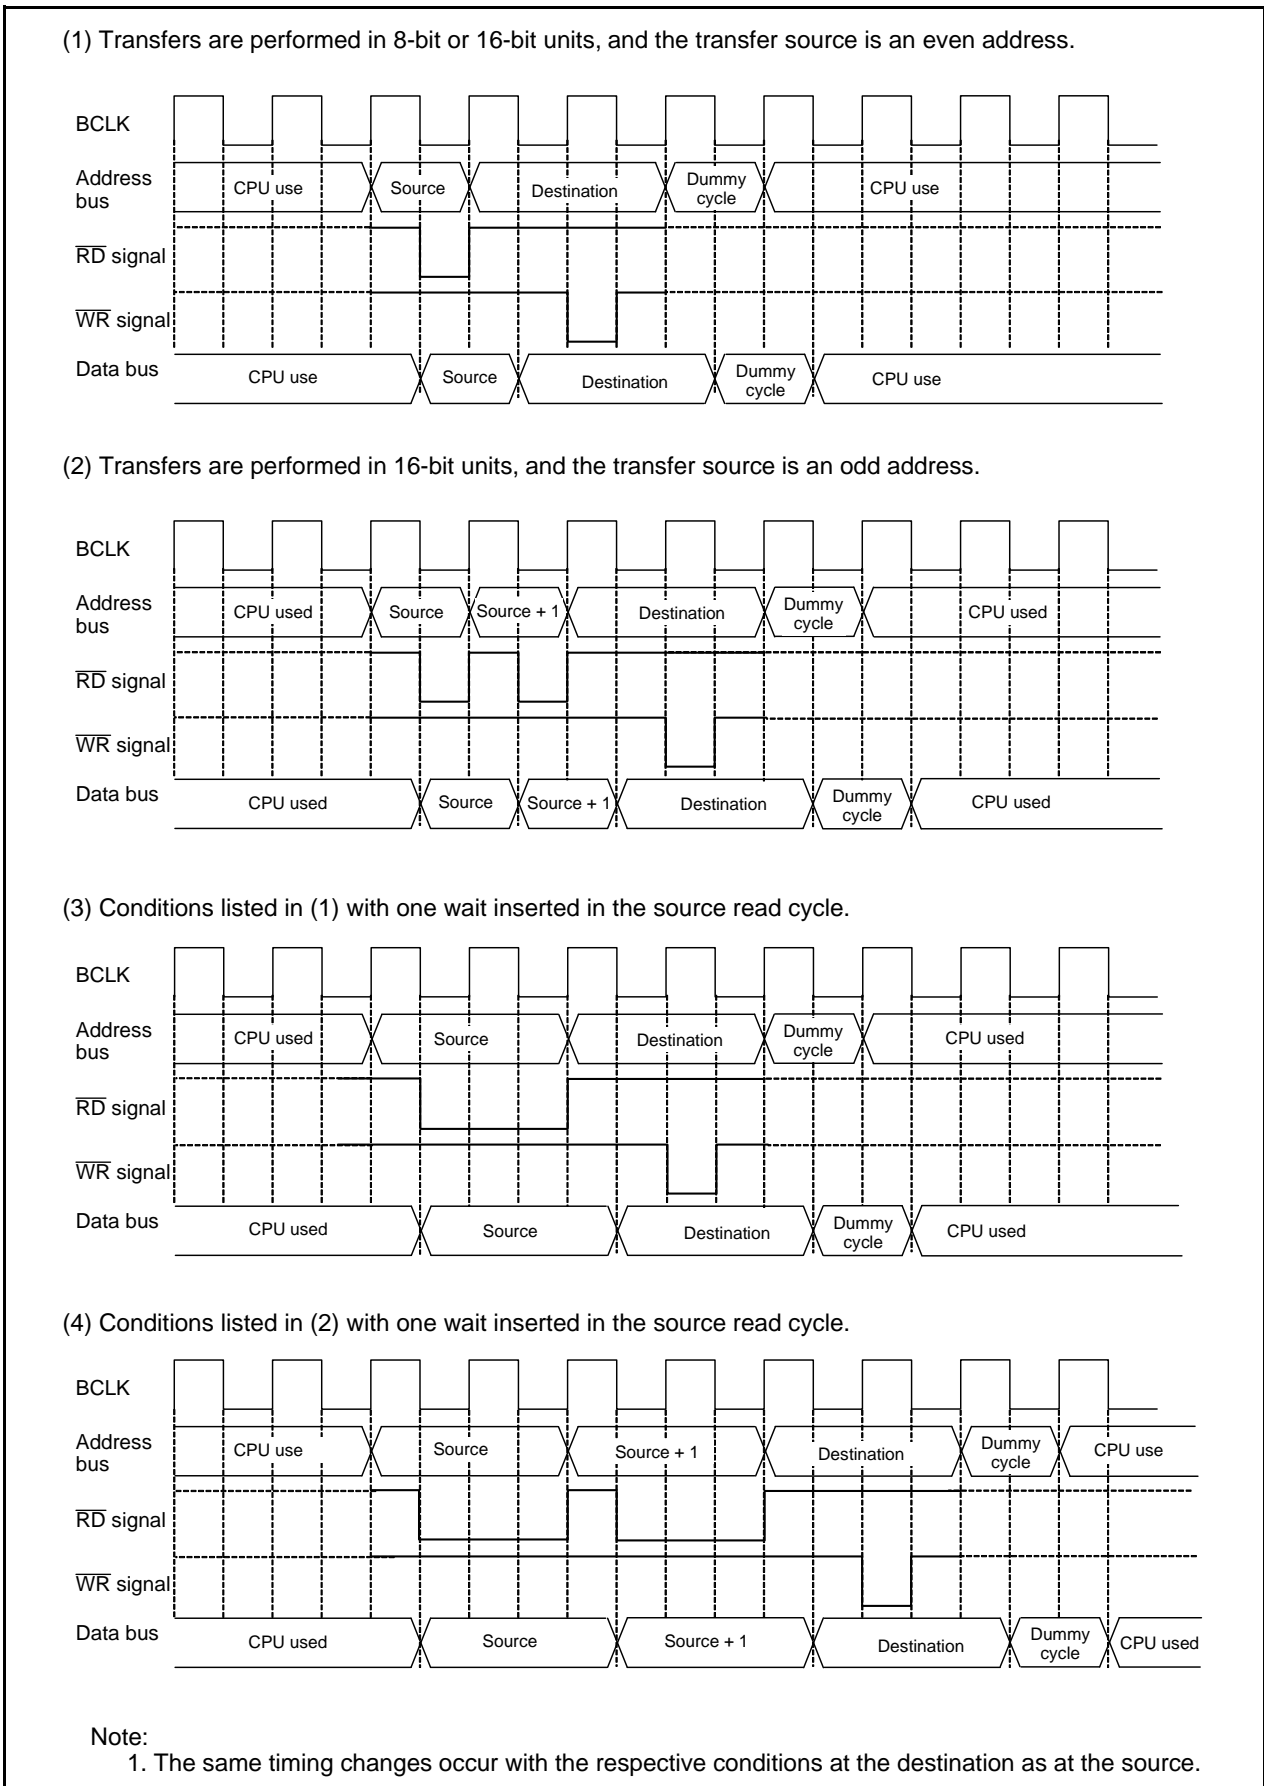

Figure 14.2 Source Read Cycle Example
Figure 14.2 shows Source Read Cycle Example. For convenience, the destination write cycle is shown as one bus cycle and the source read cycles for the different conditions are shown. In reality, the destination write cycle is subject to the same conditions as the source read cycle, with the transfer cycle changing accordingly. When calculating transfer cycles, take into consideration each condition for the source read and the destination write cycle. For example, when data is transferred in 16-bit units, and the source and destination addresses are both odd addresses ((2) in Figure 14.2), two source read bus cycles and two destination write bus cycles are required.